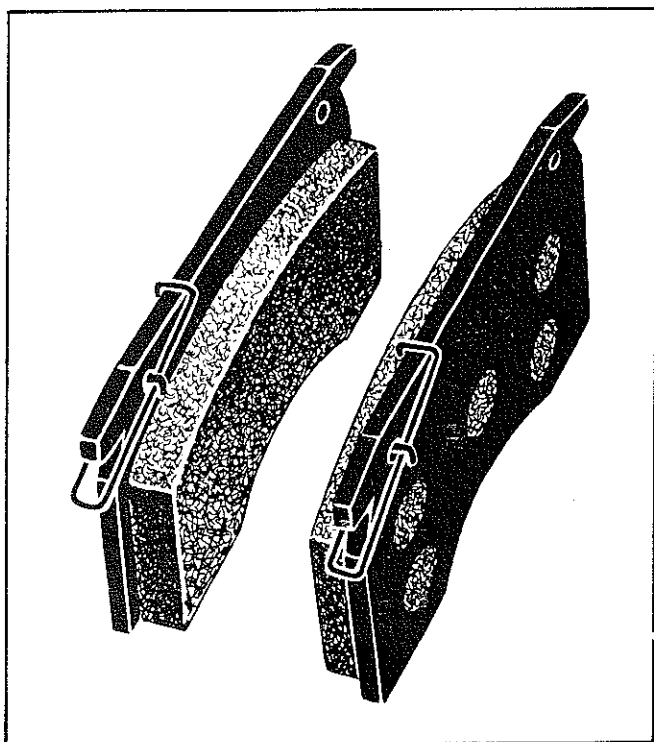

Fig. 3—Anti-rattle clip installation
- (1) Install the anti-rattle clips onto the pads as shown in Fig. 3.